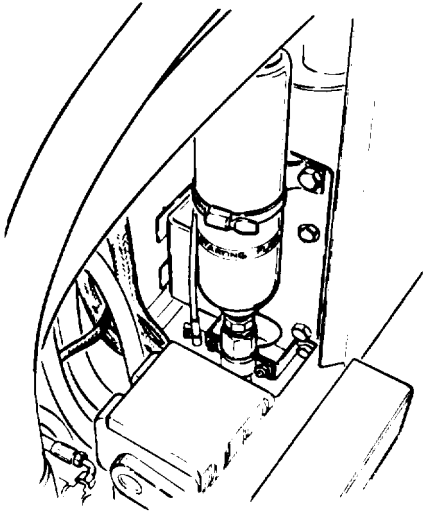

Figure 4-57. *Cold Start Cylinder*
- a. Remove cylinder from tool box and remove cap from top of cylinder (Figure 4-57).